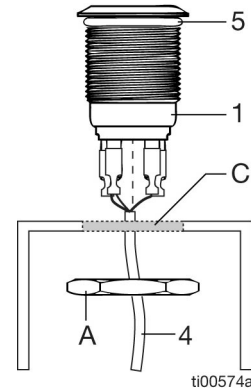

FIG. 2
5. Route and secure wiring harness (4) from pump installation location. Trim excess wire length from wiring harness (4).
6. Strip approximately 1 in. of harness jacket and 1/4 in. of conductor back. Install quick connectors (2) to wires (4) using a crimp connector.
7. Insert end of wires (4) from the back side of panel or plate, through lock nut (a) and through hole in panel or plate (c) (FIG. 2). (Note location of o-ring (5) for correct installation.)